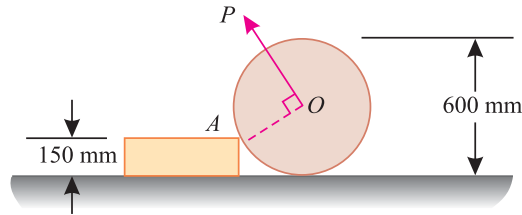

Fig. 3.8.
**Example 3.4.** A uniform wheel of 600 mm diameter, weighing 5 kN rests against a rigid rectangular block of 150 mm height as shown in Fig. 3.8.